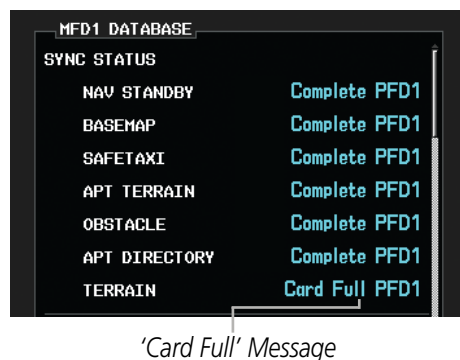

Figure B-5 Synchronization Error Message
If an error occurs during synchronization, an error message will be displayed, followed by the affected display in the Sync Status section of the Database Window (Figure B-5). If synchronization completes on one display, but an error occurs on another, the error message will be displayed with the affected displays listed after it. When an error message (Table B-1) is displayed, the problem must be corrected before synchronization can be completed. A power cycle is required to restart synchronization when 'Card Full' or 'Err' is shown.
- 9) Monitor the Sync Status in the Database Window. Wait for all databases to complete syncing, indicated by 'Complete' being displayed as seen in Figure B-5.